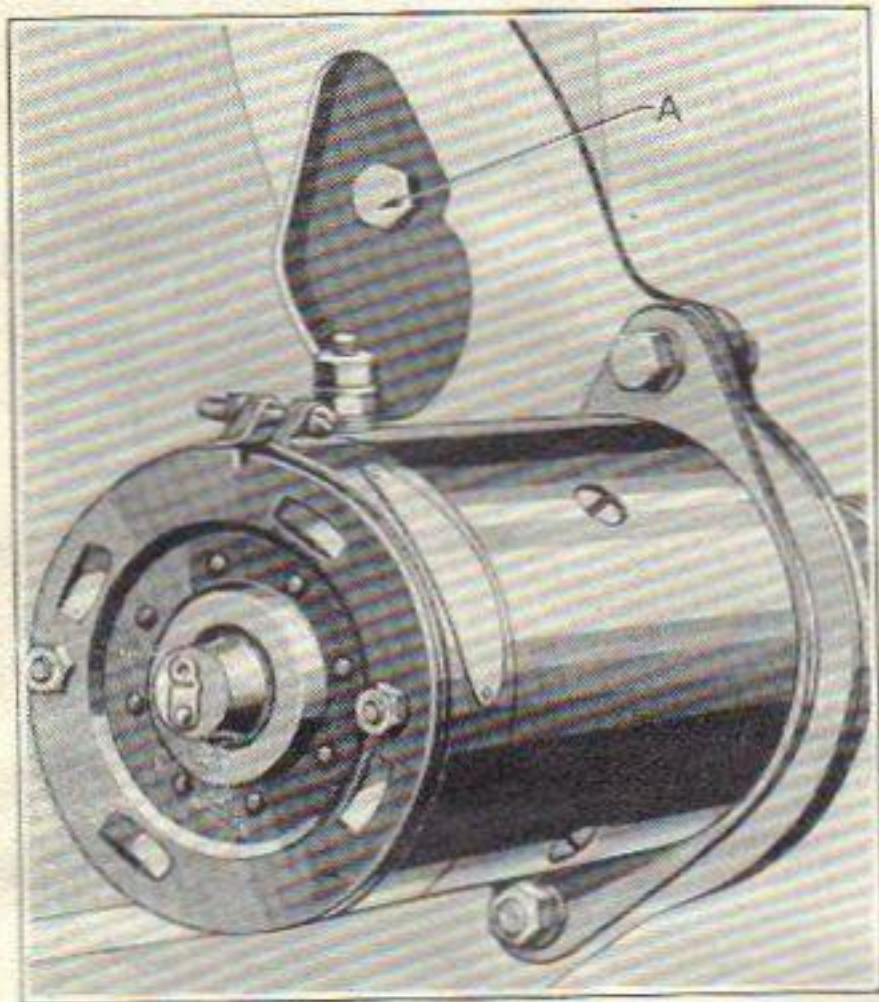

Figure 27
Every 5,000 miles the clutch should be drained by removing the drain plug (A), Figure 27, in the front face of the flywheel and visible through the timing inspection hole in the left side of the engine rear plate.